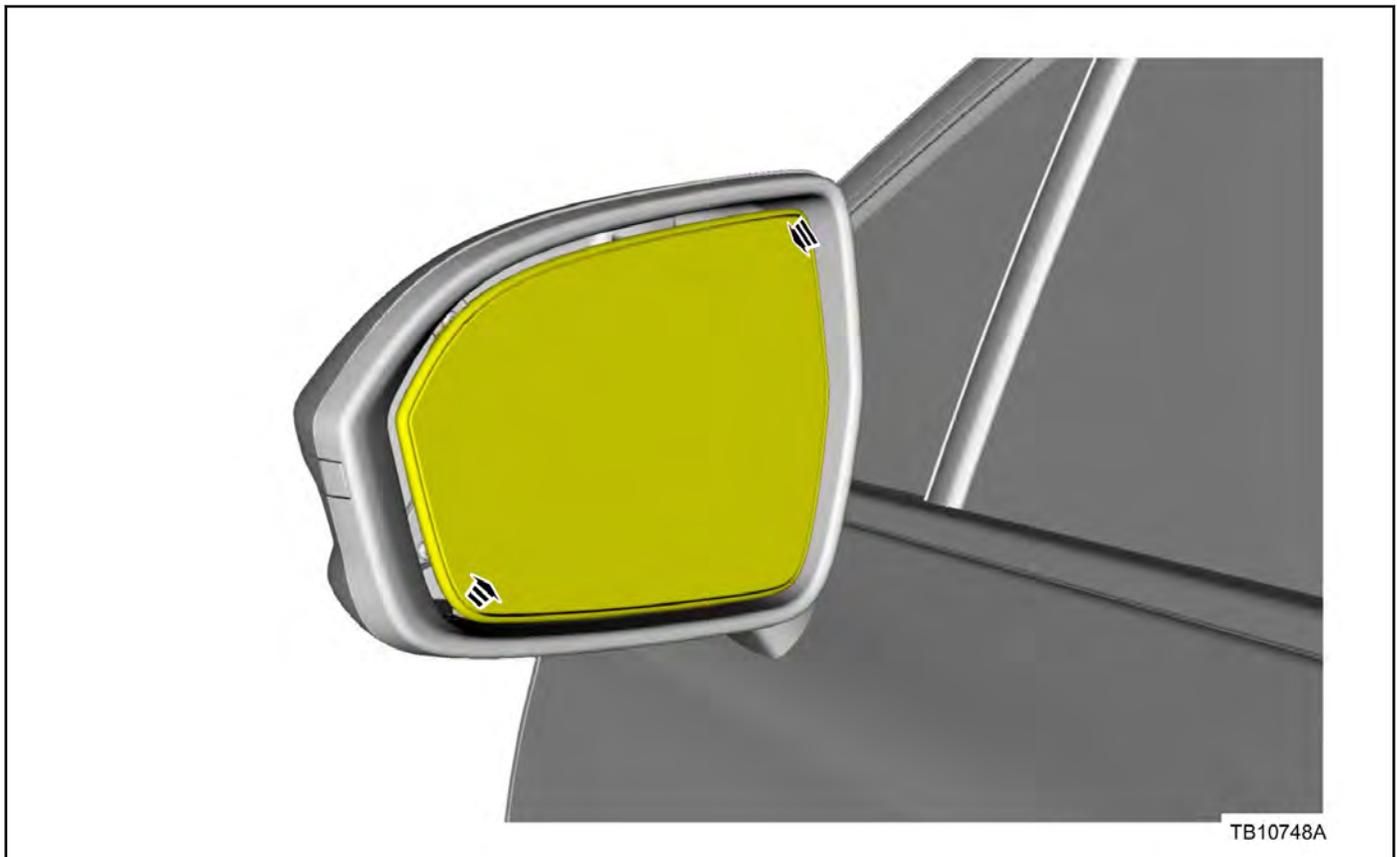

Figure 1 - Article 15-0159
1. Position the exterior mirror glass for access. (Figure 1)